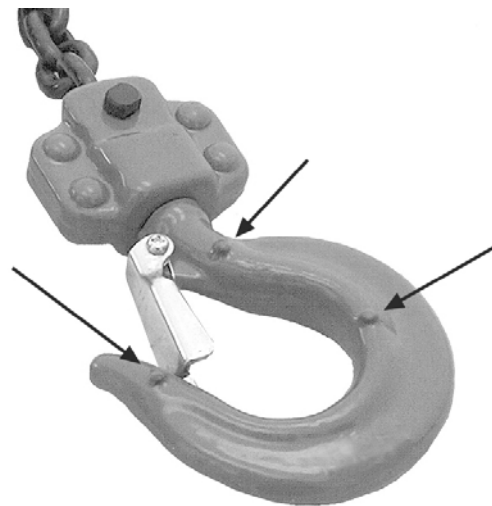

Figure 1
6. The top and bottom hooks on your JET chain hoist are designed to open to warn of an overload. Both top and bottom hooks have three indicator points cast into the hook. See Figure 1. Measurements between all three indicator points should be the same. If they are not the same, the hook must be replaced.